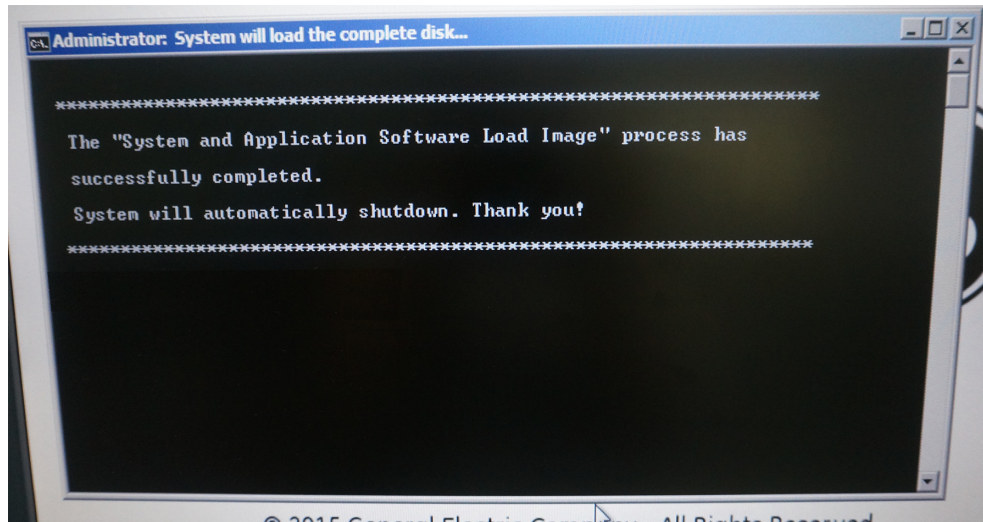

Figure 8-26 System upgrade complete
- 10.) The upgrade process is complete, the system will shut down automatically. Refer to Figure 8-26 on page 8-13.